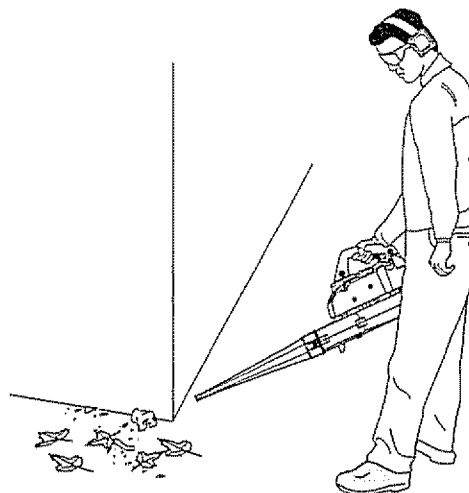

Fig. 12
1. Use the unit for cleaning debris away from driveways, walls and fences (Figs 12 & 13).